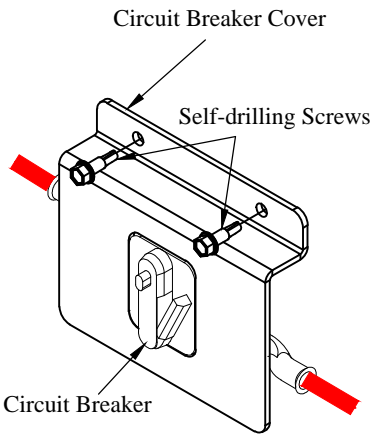

Figure 12: Circuit breaker cover.
- 14. **Attach** the circuit breaker cover using the supplied self-drilling screws (Figure 12).